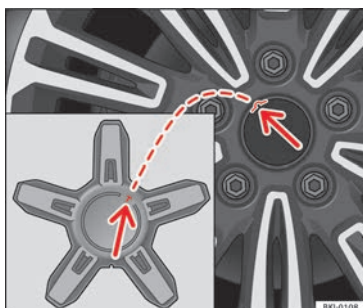

Fig. 78 Fitting the central wheel trim.
- Fit the central wheel trim onto the rim, fitting the protrusion on the trim into the recess in the rim » Fig. 78 (arrows).